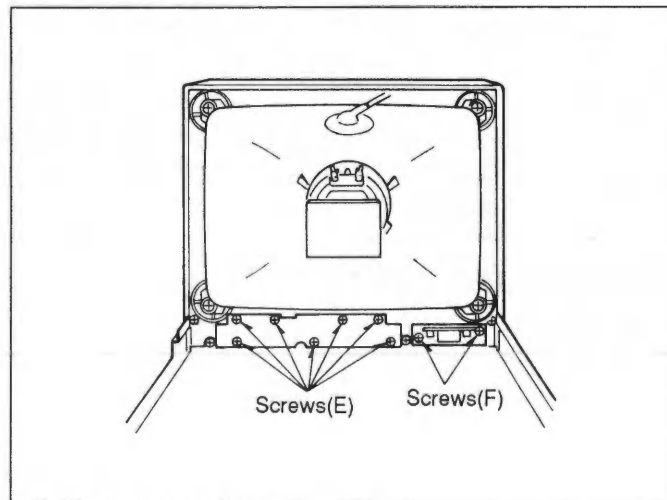

Fig.4
1. Remove 2 screws(F) as shown in fig.4.